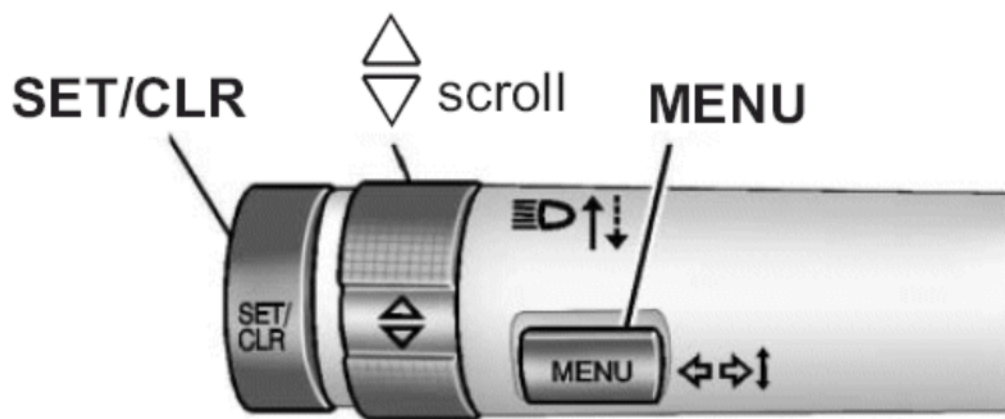

Fig. 2: Identifying DIC Controls (Turn Signal Lever)
2. Press the DIC MENU button on the turn signal lever to enter the Vehicle Information Menu. Use the thumbwheel to scroll through the menu items until you reach REMAINING OIL LIFE. See **Fig. 2**.